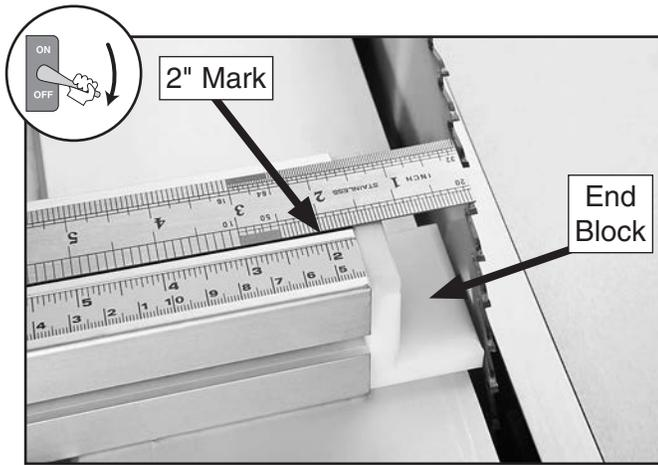

Figure 107. Setting the correct space between the crosscut fence and blade for rip cutting.
- Use a precision ruler against a tooth of the blade, then adjust the fence so that the 2" mark on the fence scale is exactly 2" from the blade tooth, as shown in **Figure 107**.